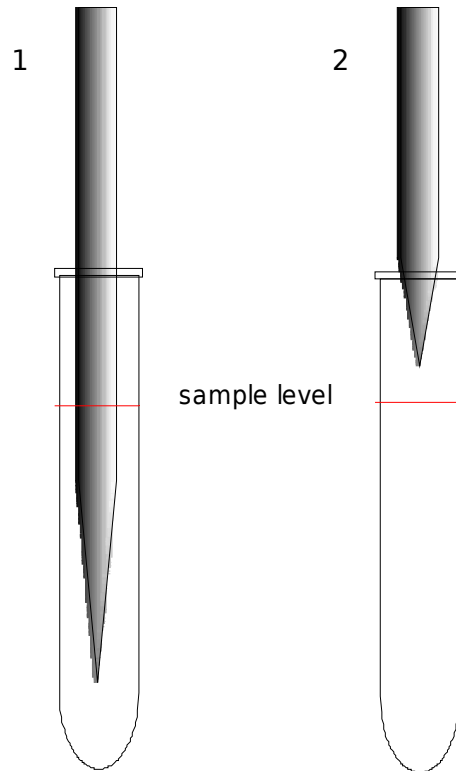
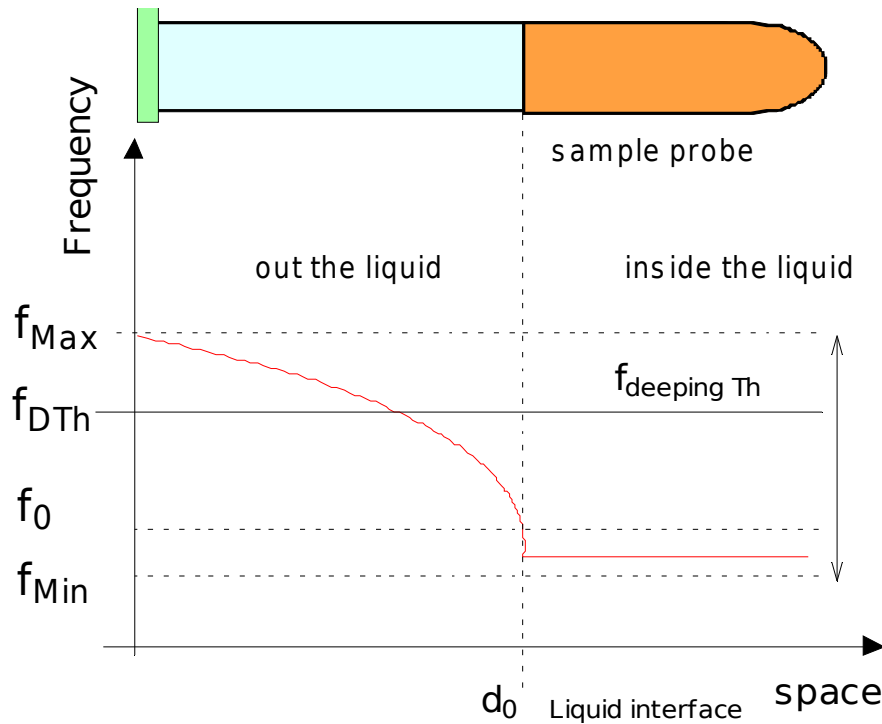

Figure 18
Figure 19:
3. From combo box *d*, select Deeping threshold level in the range [70%-99%]. Percentages is referred to the f_{Max} frequency, see Figure 19. The default value is 92%. If in your test the level sensor doesn't sense the sample level, sinking deeply into the test tube, increase the deeping threshold value.
When the level sensor doesn't sense correctly the sample in serum tray 1 you have to adjust the following parameters: Deeping threshold and sensitivity threshold. The first parameter defines the percentage of maximum frequency f_{Max} from which the detection starts (maximum frequency is on needle home position, see Figure 19), sensitivity threshold is linked with the frequency variation from air to liquid.
If the level sensor fault condition is like in the case 1 of Figure 18 it means that the deeping threshold value is under the f_{Min} and you need to increase it, see Figure 19. When you modify deeping threshold move by 5% step units across the range.
If the level sensor fault condition is like in the case 2 of Figure 18 you have to make the following :
The whole washing cycle can be divided in 6 steps (see Figure19) :